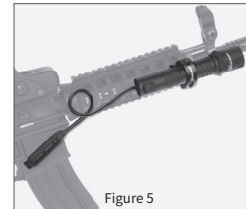

Figure 5
9. Test fit the mount on to the Picatinny or Weaver rail of the long gun. Determine the desired location of the RPS (Figure 5) on the long gun. It can be attached to any clean, dry, flat surface. Figure 5 is one example; choose the best location for your weapon's configuration and personal preferences.
14. Peel off the paper backing on the other side of the Velcro® adhesive strip and press it onto the clean area of the long gun. (Figure 5).